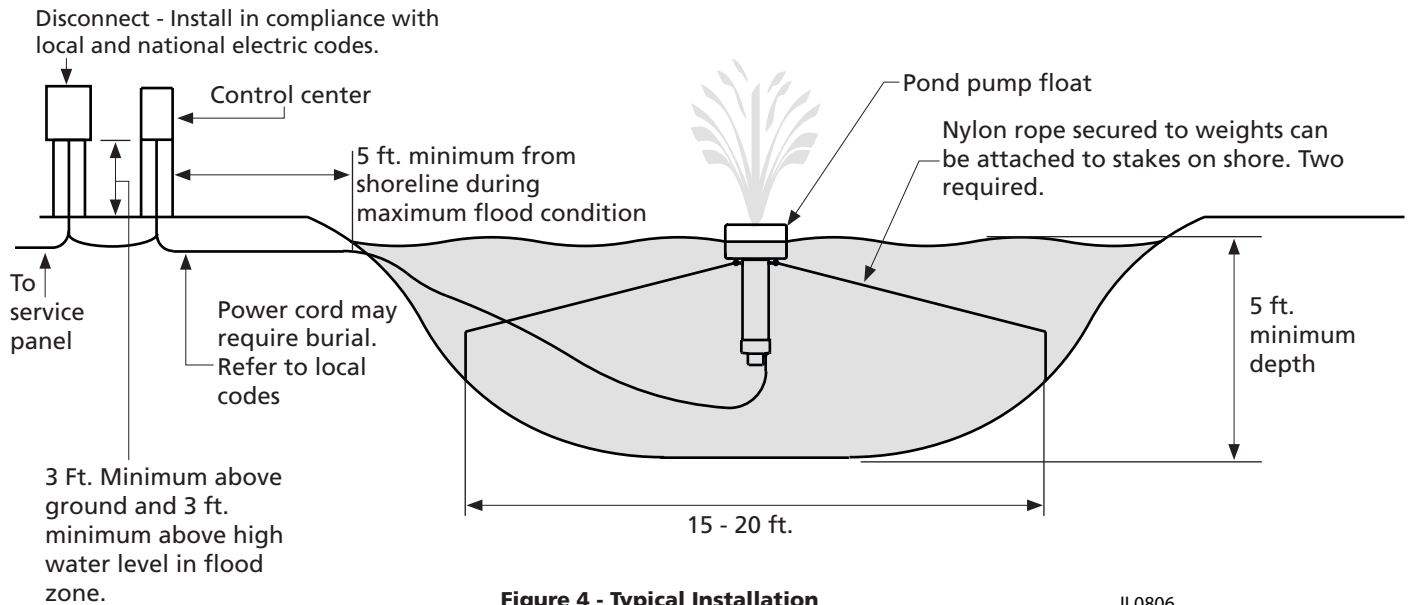

Figure 4 - Typical Installation
3. Install fountain in pond. (See Fig 4 for typical installation).
2. Control Center mounting location. (See fig. 4 for typical installation)